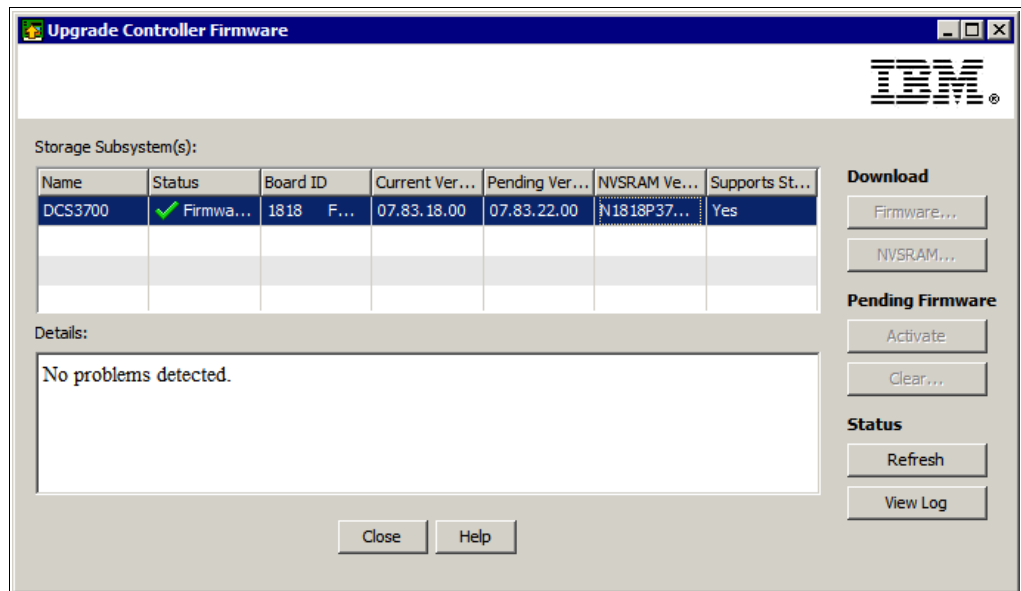

Figure 14-30 NVSRAM upgrade successful
- d. You can monitor the status of the NVSRAM upgrade in the Upgrade Controller Firmware window. Figure 14-30 shows the status after the NVSRAM is transferred and activated successfully.